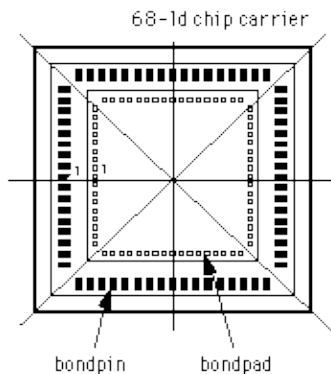

Fig. 3: Partitioning of the bondpads
6. To determine the right position of the bondpads, it is advised to draw the chip together with the bondpins of the package. The chip has to be partitioned in equal segments (4 to 8). Bondpads and bondpins have to be located in the same segment (figure 3).